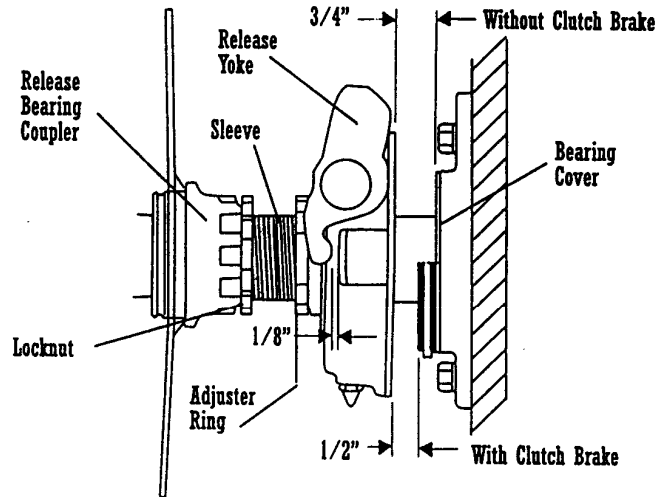
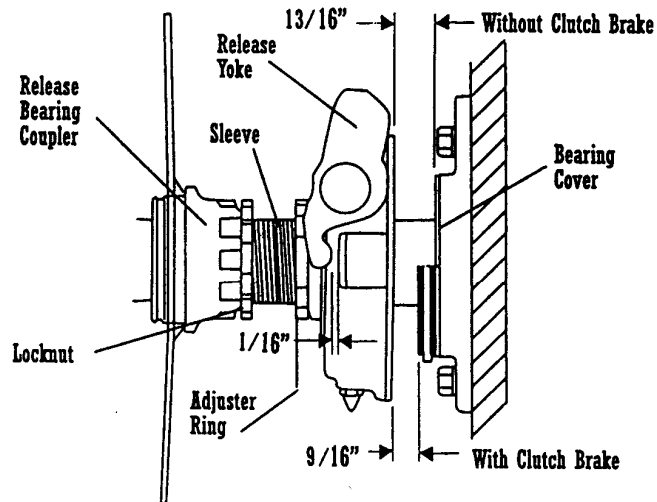

Figure 1
Figure 2
Figure 1 depicts what a typical Medium or Heavy Duty Valeo clutch installation looks like when correctly adjusted. As previously described, the clutch pedal freeplay will become shorter as the clutch normally wears in service and the gap behind the release bearing will grow longer. Service adjustments are triggered when the freeplay has shrunk to one half of its newly adjusted value (see Figure 2).
1. Loosen the locknut and rotate the adjuster ring to achieve the proper amount of release bearing travel clearance (see Figures 1 and 2).
3. Check the freeplay gap between the release yoke and the release bearing wear pads. It should be 1/8" (see Figure 1). If the gap is wrong, see vehicle shop manual for the correct method to adjust the truck release linkage in order to obtain a 1/8" gap.